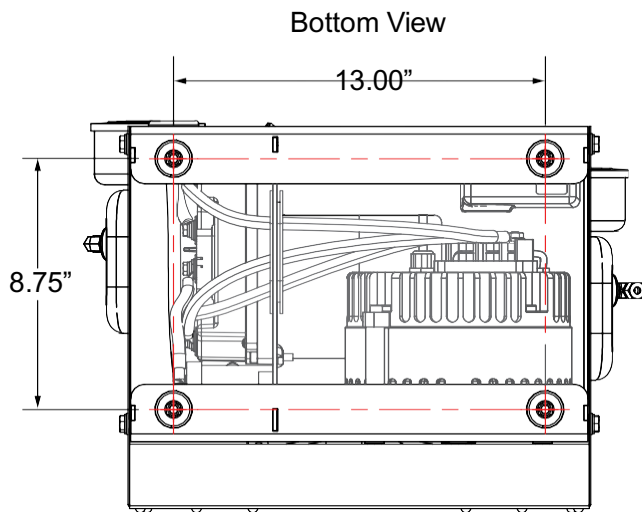

Figure 1-4
3. Rectangular spacing is 13.00" x 8.75" O.C. (See *Figure 1-4*)